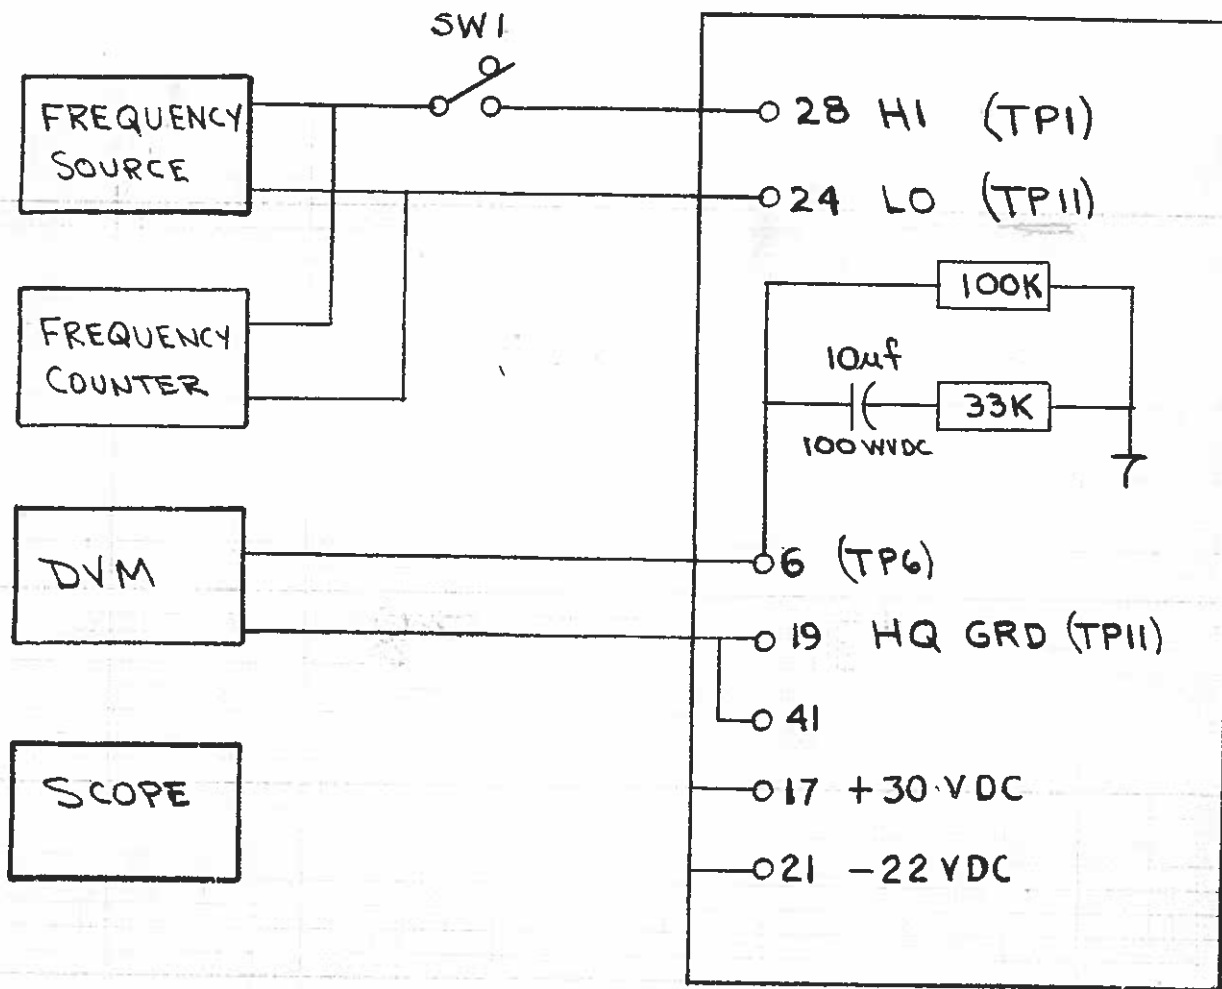

FIGURE 4
1. CONNECT F/V circuit board per test set-up shown in Fig. 4.